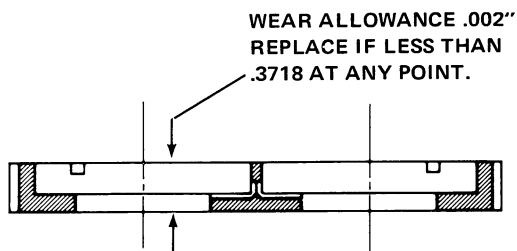

Figure 9.
2. .002" is the maximum wear allowable. Figure 9. Replace thrust plates if they are scored, eroded, or pitted.
1. Figure 9. When pressure in the working circuit is below the setting on the relief valve, the spear shaped pilot poppet and the main poppet are positioned on their seat.